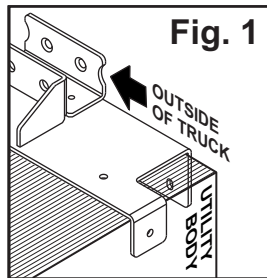

Fig. 1
4. Insert the rack into the two mounting brackets while also inserting the two supplied spacers and secure the rack to the mounting brackets using the supplied hardware (Figs. 1 & 2).
1. Position the mounting bracket on the front edge of the utility body where it will be mounted. The two tabs on the bracket will hang over the front and inside of the utility body (Fig. 1).